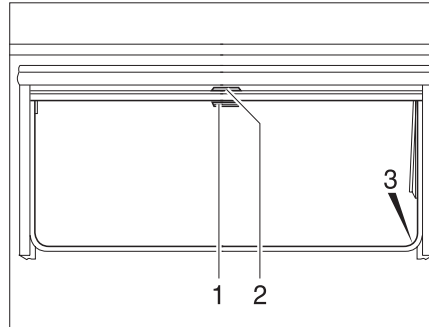

Fig. 38 Hinged window
- ▶ Pull blind at the handle (Fig. 38,2) downwards. If the blind is to be completely closed, it is suspended into the locking devices (Fig. 38,3) situated on both sides of the window frame.
- ▶ Press the handle (Fig. 38,2) downwards and, at the same time, tilt it slightly inward. The blind can be taken out of the locking devices situated on both sides of the window frame.
- ▶ Pull the handle (Fig. 38,2) slightly downwards until the locking device releases.
- Pull the roller insect screen at the handle (Fig. 38,1) downwards and hang it into the locking devices (Fig. 38,3) situated on both sides of the window frame.
- Press the handle (Fig. 38,1) downwards and, at the same time, tilt it slightly inward. The roller insect screen can be taken out of the locking devices situated on both sides of the window frame.